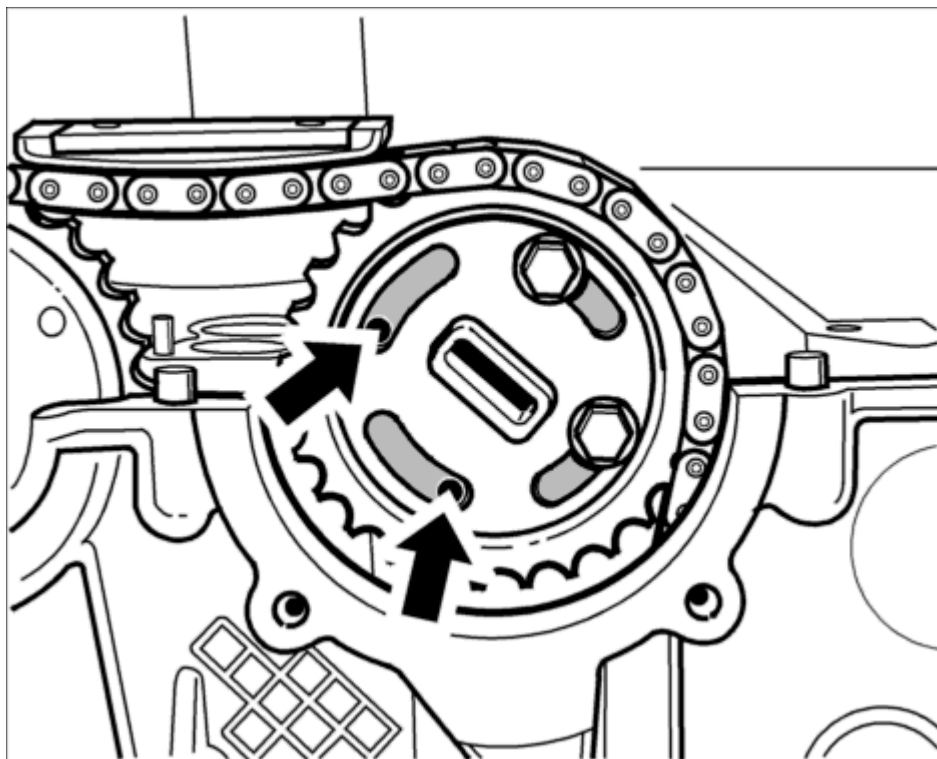

Fig. 86: Exhaust sprocket 1 - 3 at 60° before TDC
28. Insert exhaust camshaft sprocket in the timing chain and position on camshaft flange. The four threaded bores in the camshaft flange must be fully visible **on the left at the slotted curves of the sprocket -arrows-** so that the M6 x 12 Torx screws can still be positioned to fasten the sprocket. See **Fig. 86**.